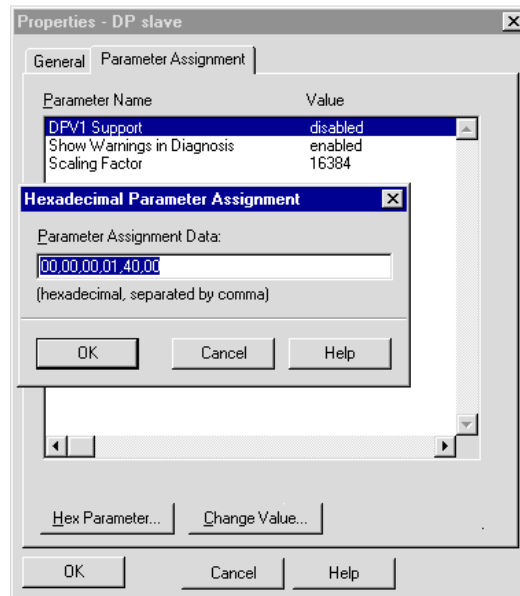

Figure 3.1 Configuration, CM-DPV1 parameter setting
The DP standard parameters are created independently by the hardware configurator based on the GSD file. In many hardware configurators these DP standard parameters are not visualized, which means only the parameters as from byte 7 are made available for editing; see also Figure 3.1.
To reach the window manually from Figure 3.1:
- Select the DP-Slave (see Figure 3.1 “(3) LUST CM-DPV1”).